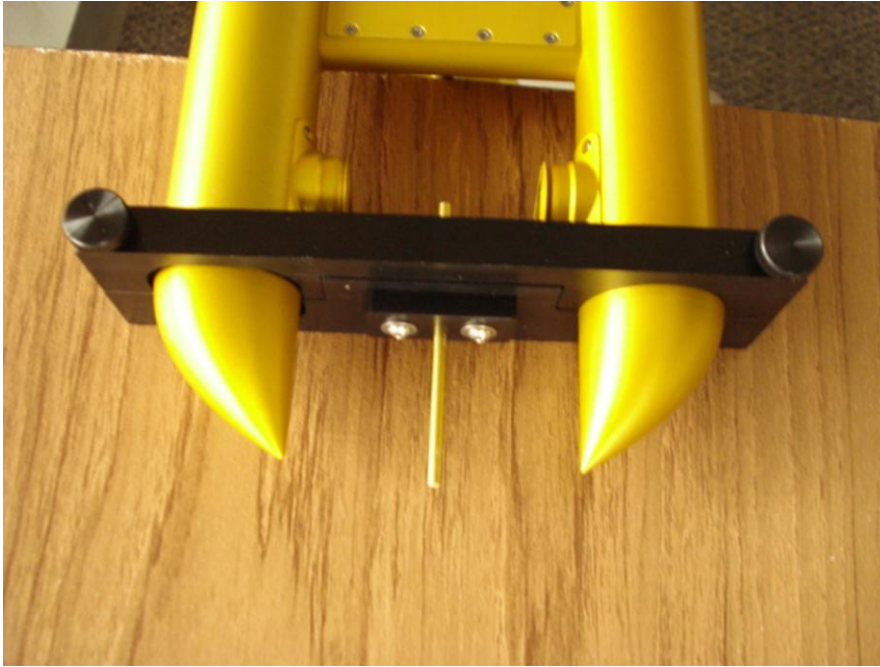

Figure 13: CDP Calibration Fixture
- 7.) Attach the calibration fixture to the CDP. Figure 13 shows a calibration fixture mounted on a CDP.